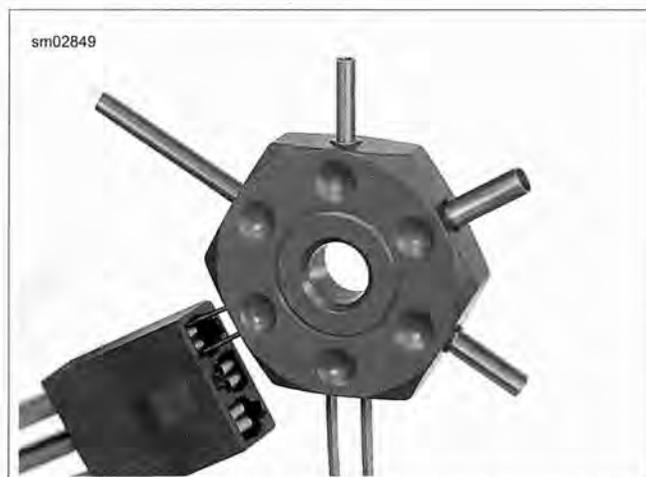
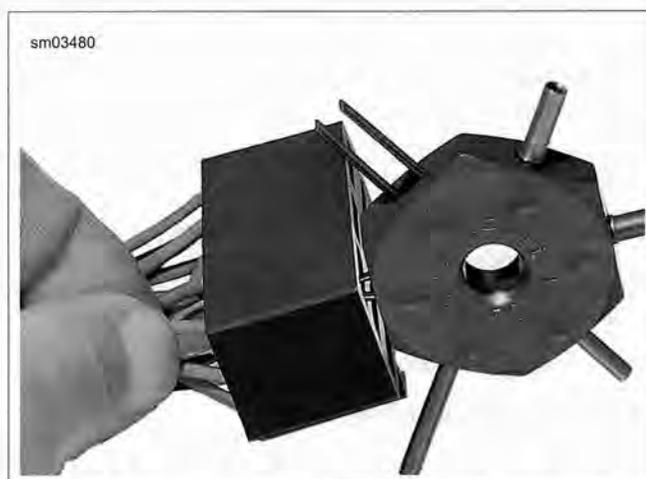

Figure A-1. Removing Autofuse Unsealed Terminal from Ignition Switch
Figure A-2. Removing Autofuse Unsealed Terminal from Fuse Block
2. See Figure A-1 or Figure A-2. Insert smallest pair of pins into chamber on mating end of socket housing to press tangs on each side of terminal simultaneously.